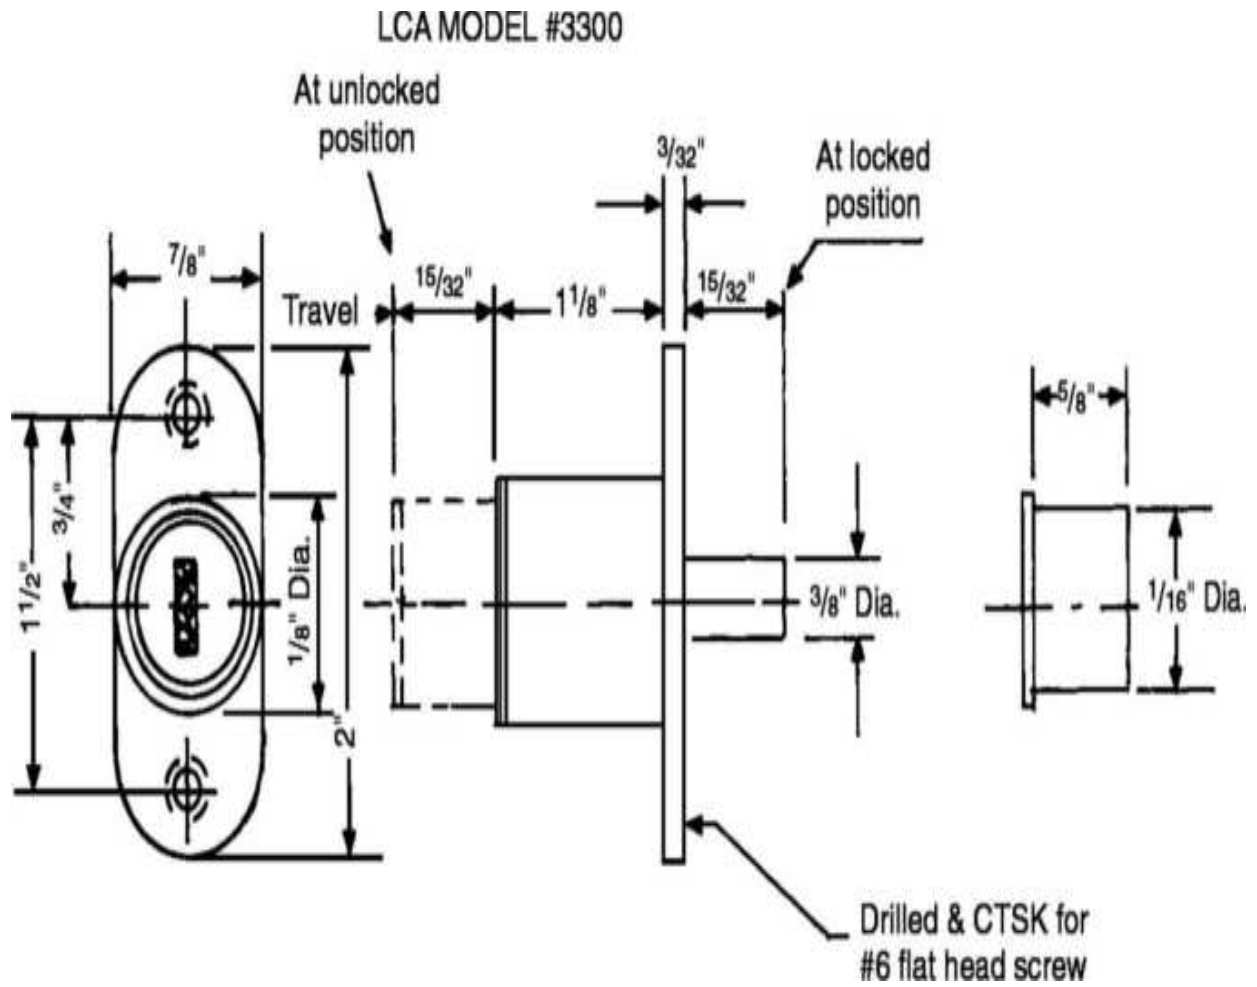
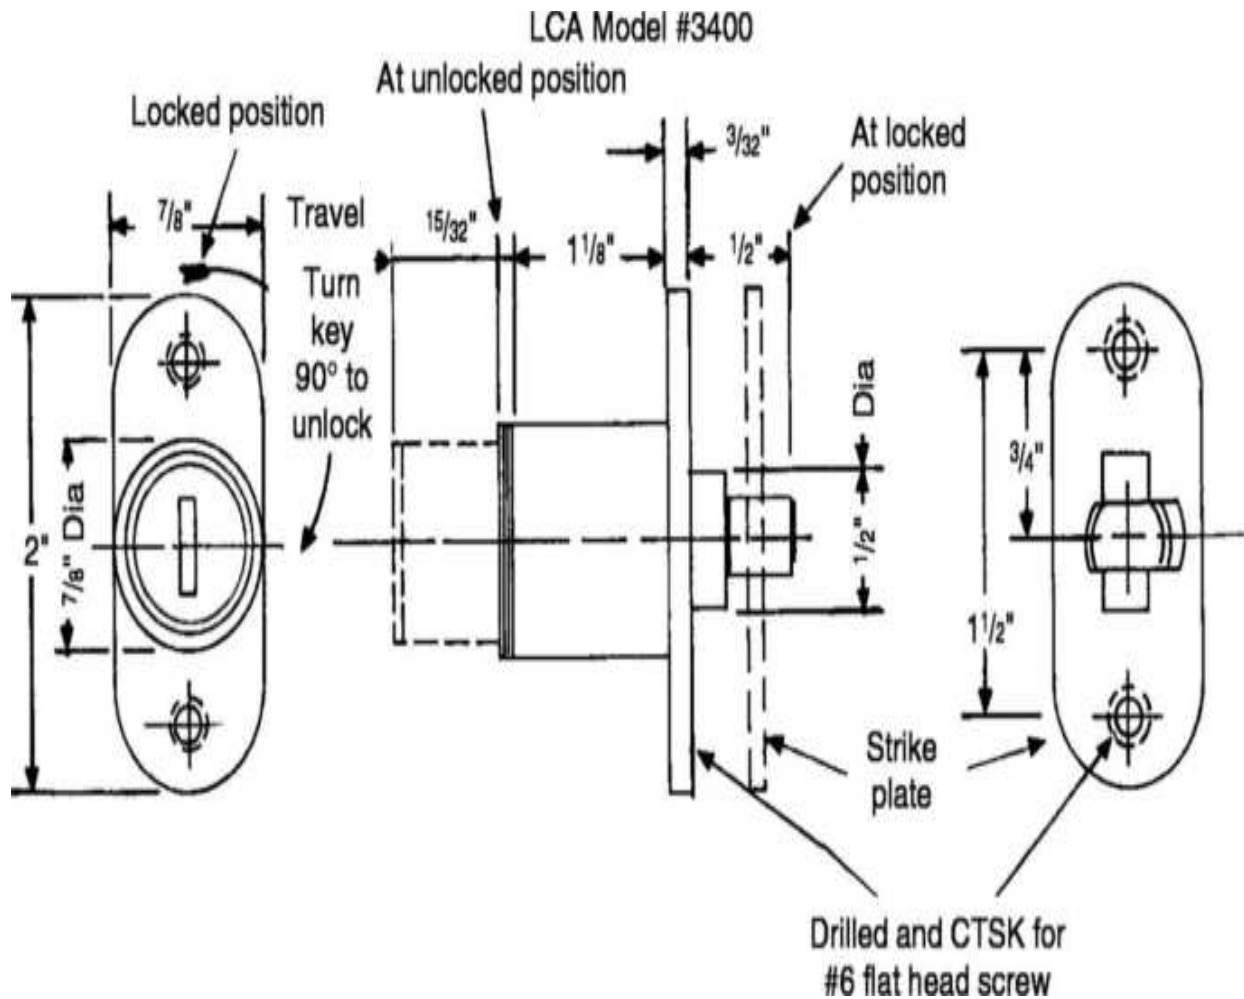

**Figure 5.18** Technical dimensions for the sliding door pushbutton lock. (*Lock Corporation*)
**Figure 5.19** Technical dimensions for the push and turn showcase lock. (*Lock Corporation*)
The push-turn bayonet type lock in this LCA series has a different strike plate (Fig. 5.17 ). It is locked by turning the key 90°, pushing the cylinder in and rotating the key again to lock the T-type plunger behind the strike plate, thus preventing the doors from being pried apart. The cylinder locks in either the in or out positions for further protection. With the 3350 model lock, a  $\frac{7}{16}$ -inch-diameter, case-hardened, steel-covered bolt is available. Figure 5.18 shows the 3300 model technical dimensions, while Fig. 5.19 provides the same information on the 3400 model.